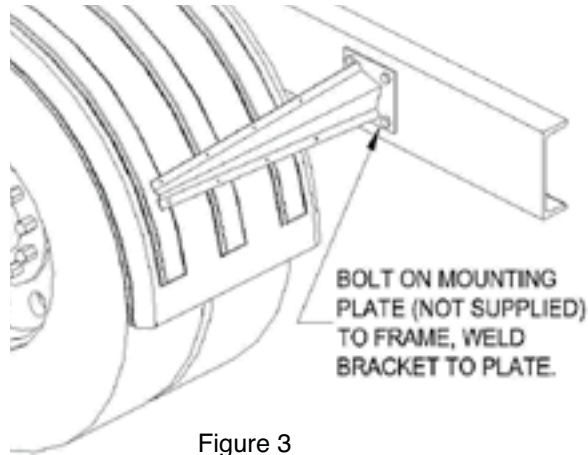

Figure 3
- For weld on brackets, you can bolt a plate (not supplied) to the frame and weld to that plate or just weld the brackets right to the frame if preferred. **Check your owners' manual before welding directly to the frame. Most manufactures suggest that you do not weld anything directly to the frame.** Make sure the brackets are aligned to the fender prior to welding. Plate should be a minimum of $\frac{1}{4}$ " thick steel. See Figure 3.